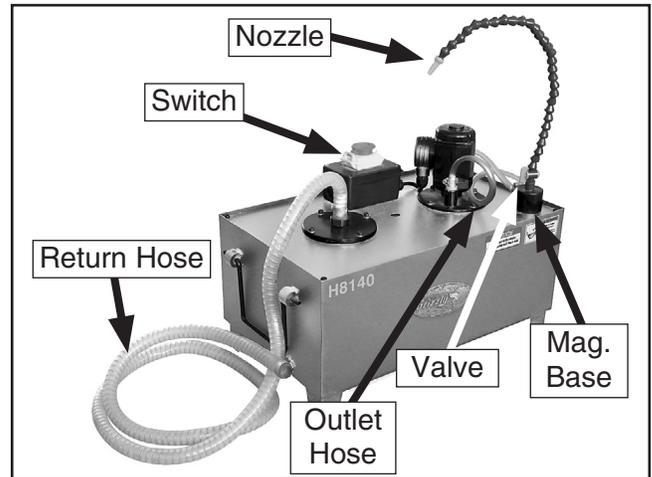

Figure 1.
1. Connect the return hose (**Figure 1**) to the coolant return on the machine performing the cutting task.